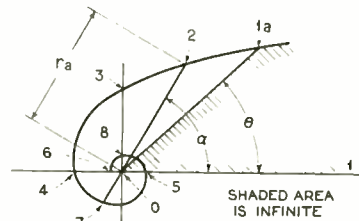
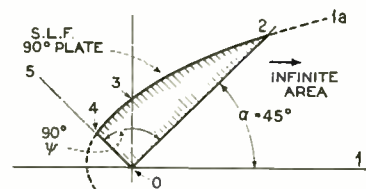

FIG. 2
FIG. 4. S.L.F. polar curve. $f \text{ max}/f \text{ min} = 3$.
This is the amplification equation of the circuit of Fig. 1C, which may, therefore, be regarded as the approximately equivalent circuit of the amplifier. The manner in which the three components of the equivalent resistance vary with frequency is shown in Fig. 2, which has been calculated for a typical case. Likewise, in Fig. 3, there is shown a curve of voltage amplification, calculated by equation (8).
An inspection of Fig. 2 shows that, for values of grid-suppressor commonly used, the "true" resistance of the tuned circuit plays an important part only at the lower frequencies, and that at 1500 kc. the resistance due to the grid-suppressor and the tube impedance may be as much as four or five times the "true" tuned circuit resistance. The reflected resistance, likewise, is small, and at high frequencies it may even be omitted from consideration in most cases.
The overall feedback increases steadily with frequency, having the effect of introducing into the tuned circuits a negative resistance, as indicated by the curve R' of Fig. 4. In that illustration, R'' represents the total circuit resistance before cascading (i.e., the denominator of equation (8), or the sum of the curves of Fig. 2), and R''' is the resulting resistance after cascading.
The peak of the curve may be made to occur anywhere within the tuning range or may even be made to occur outside of the range. As Fig. 6 indicates, reducing the grid-suppressor moves the peak slightly toward the higher frequencies. This effect is small and is of little value in design. The initial effect of cascading, however, shifts the peak considerably to a higher frequency, as can be seen by comparing Figs. 3 and 6. Increasing the mutual inductance of the transformers moves the peak toward the lower frequencies and, as can be seen by equation (8) increases the amplification as well. This may, however, require an increase of grid-suppressor in order to maintain stability, depending upon the initial margin of stability. It is possible to keep the net circuit resistance low (i.e., the R''' curve of Fig. 4), by employing loose coupling and at the same time keeping the grid-suppressor small, but the amplification will also be small. By the time the coupling has been loosened sufficiently to afford the required low resistance (or the required selectivity) the amplification will have either fallen below the commercial requirement, or the amplifier will have been made unstable in order to maintain this amplification. On the other hand, it is possible to employ a substantial coup-
If we define the "graph" 2-4-5 in Fig. 2, giving the total area from $\theta = \infty$ to $\theta = \psi + \alpha$ where $\alpha =$ angle 1-0-2 and ψ angle of plate rotation, — so that
we get a simple equation for building up the area in Fig. 2, in terms of the "zero" area, A_0 —corresponding to C_0 . We thus reach a total of 9 times this "area" by adding the plate-area calculated from equation (2)—which is, of course, 8 times this "zero" area A_0 .
Now since the plate area plus the fictitious "area" A_0 is proportional to total capacitance, it must operate between an initial angle α and a final angle $\alpha + \psi$ on the curve in Fig. 2 and we must allow the "zero" capacitance, which is mostly outside of the condenser plates, to equal the capacitance corresponding to the highest frequency covered by the S.L.F. range.
Since in Fig. 2 we have a curve whose area is swept out by the radius vector O-2 as defined by equation (1), and since this radius vector covers a
Here the interest for the practical engineer is in the simplicity of this "reverse" method. We know that Fig. 2 is the curve given by equation (1). As the radius vector starts from the initial line O-1 and traces out counterclockwise, the area bounded by the spiral 1a-2-3-4-5-6-7-8-9, etc. its angular displacement θ varies from $\theta = 0$ to $\theta = \infty$.
vector in Fig. 2 which gives, say, at 0-2, the longest radius to be used in the plate. In other words, if we cut the curve 1a-2-3-7-5 so that the rotor plates have 180 degrees of relative angular motion, we can select the correct initial edge line 7-0-2, in advance for this purpose as follows— noting that the “area” 1-5-0-2-1a can not be used; as it is infinite.
Equation (7) means that, since $\psi = 180$ degrees and $g = 4$, $\alpha = 60$ degrees or the angle 1-0-2 in Fig. 2 must be 60 degrees to determine the longest radius 0-2 of the movable S.L.F. plate.
longest edge 0-2. In Fig. 4 a 90-degree plate is used with the same frequency range and, therefore, $\alpha = 45$ degrees, to get the longest edge 0-2.
It must now be obvious that the area of the condenser plate curve in Fig. 2 if taken from $\theta = \alpha + \psi$, where the capacitance area is least, to $\theta = \infty$ where it is zero, covers all of the stray capacitance in the set. To